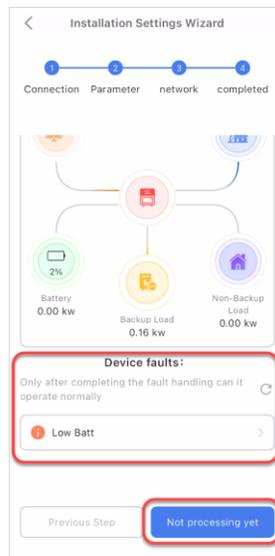

Figure 6-13 Troubleshooting or Skip Device Faults
- If there is equipment failure, it will display as shown in Figure 6-13.